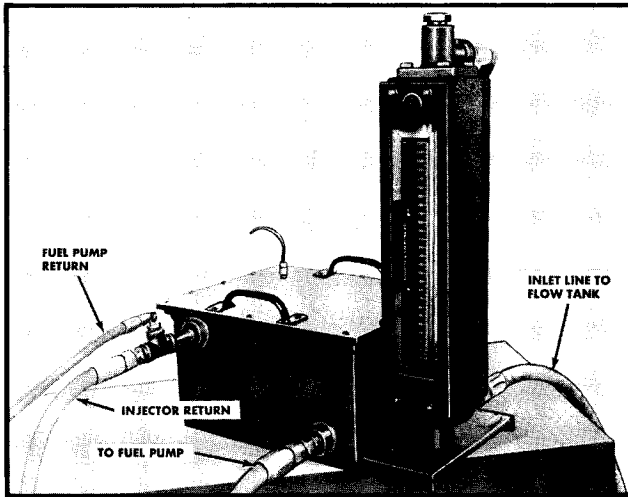

Fig. 12-88. Checking fuel rate with ST-502 meter
6. Recheck fuel rate with ST-502 flow-rate meter or by using a beam scale to weigh fuel consumed during five minutes of maximum horsepower, governed rpm operation. See Fig. 12-88 for ST-502 hookup.
NOTE: If practical, a check of engine fuel rate with ST-502 Flow Meter may be substituted for Step 1 above. The fuel rate should be 72 pounds per hour. See Fig. 12-88.